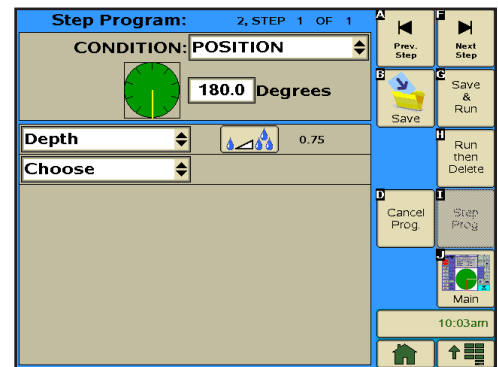

Figure 165-1
17. Program the position condition for this step. Refer to Figure 165-1.